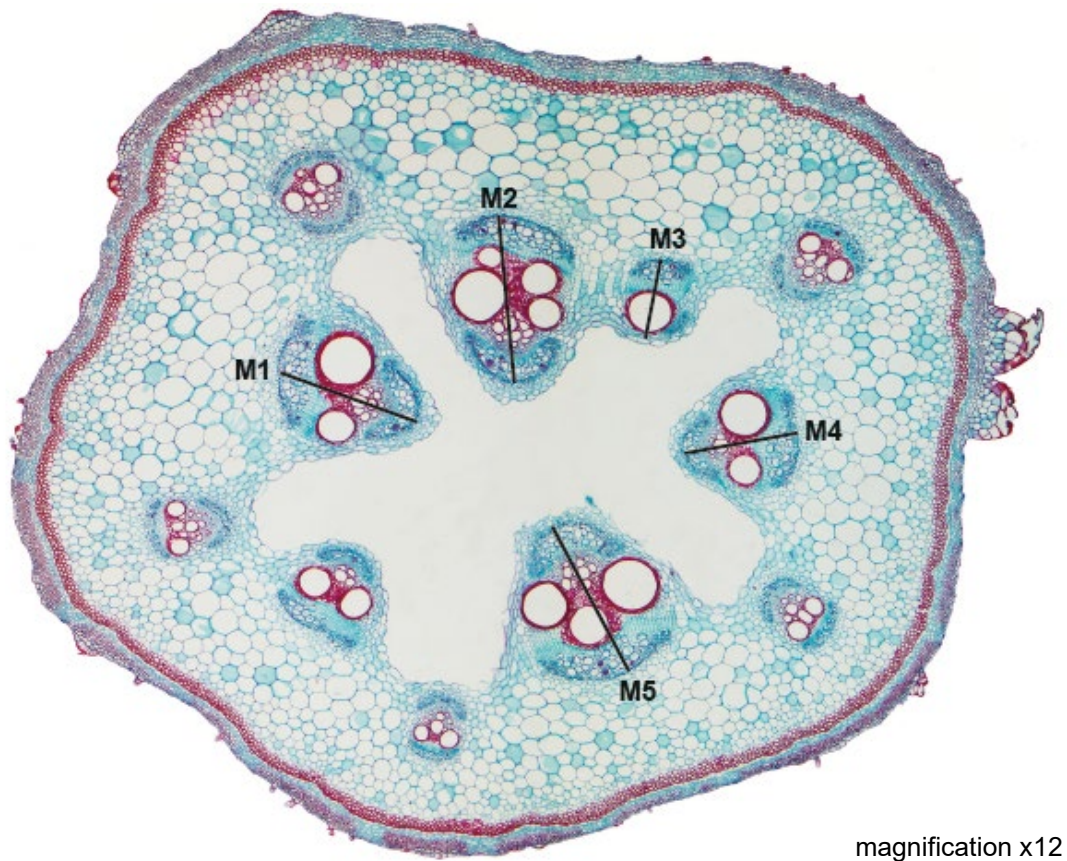

Fig. 3.3
Fig. 3.3 is a photomicrograph of a stained transverse section of a stem from a different plant.
- (ii) Measure the length of the vascular bundles using the lines **M1**, **M2**, **M3**, **M4** and **M5** in Fig. 3.3 **and** calculate the mean actual length of the vascular bundles.
- (iv) State one observable difference between the vascular tissue seen in **K1** and the stem shown in Fig. 3.3.